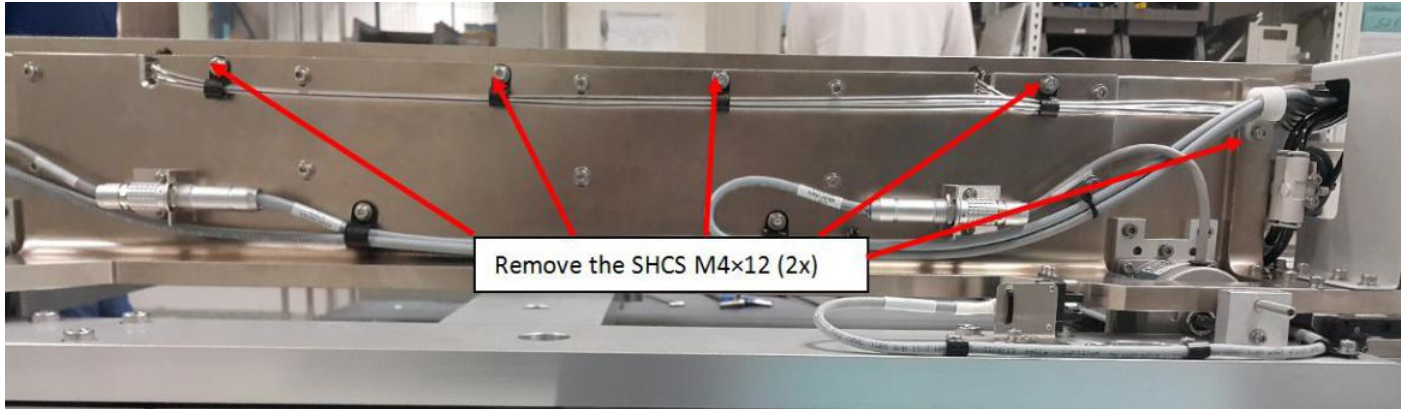

Figure 7 SHCS M4x12
4. Remove SHCS M4×12 (2x) and cable clamp as shown below in Figure 7. Remove entire Sensor 4 Emitter Head Cable as shown from Figure 7 to Figure 13.